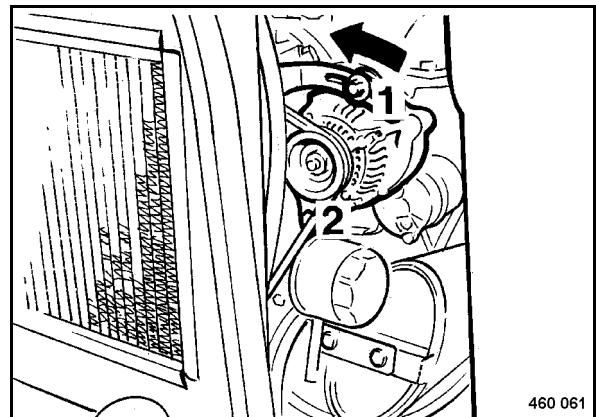

Fig. 100
- Slacken the fastening screws 1 and 2 (Fig. 100).